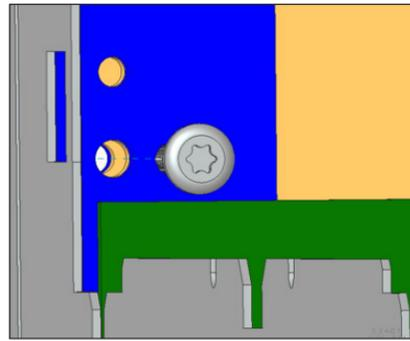

Figure 10: Adjust Wide Center Seam
2. Tighten the hardware until the seam is within tolerance. Refer to the **DVN Seam Measurement Field Instructions Quick Guide (DD2090360)** for details on seam tolerance and to **Figure 10** for details on seam adjustment.